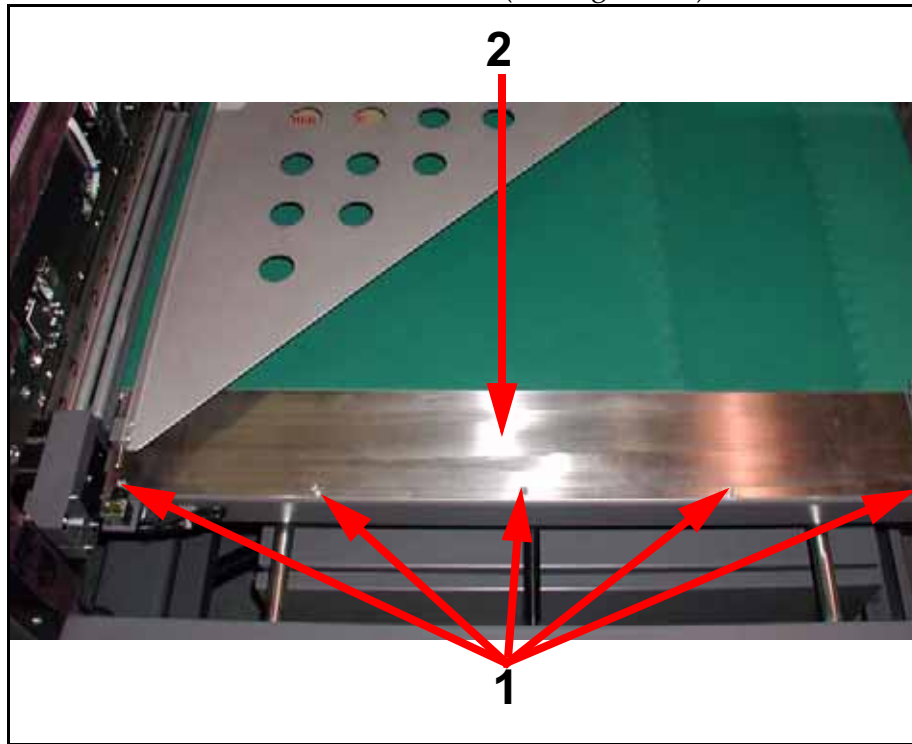

Figure 7-6. Front Cover Screws
- 4 Loosen front cover screws (1 in Figure 7-6) and remove front cover (2).